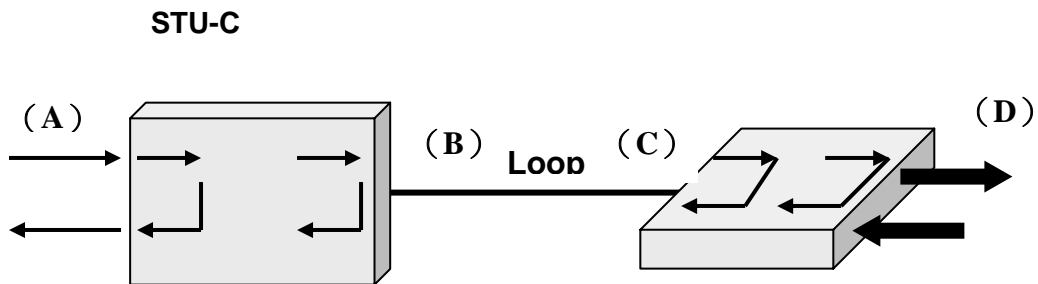

Figure 2.4 Remote Payload Loopback
The Remote Payload Loopback is able to be activated and deactivated through EOC via CID interfaces, and is set up inside STU-C/STU-R as close as possible to the network side interfaces. The received signal is sent to network side interface. For example, if Remote Payload Loopback is activated at STU-C, the direction of Remote loopback would be like (D) in figure 2.4